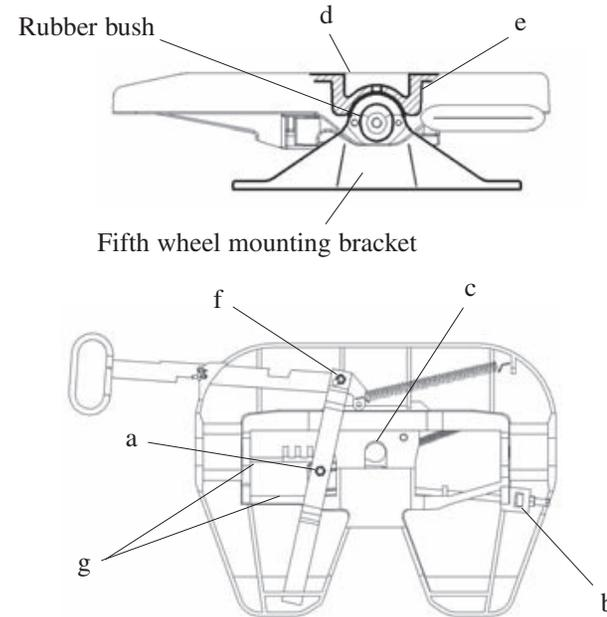

Figure 11 - Labelled diagram of fifth wheel parts
2. Regrease, with clean grease, all points a to h as shown in Figure 11.